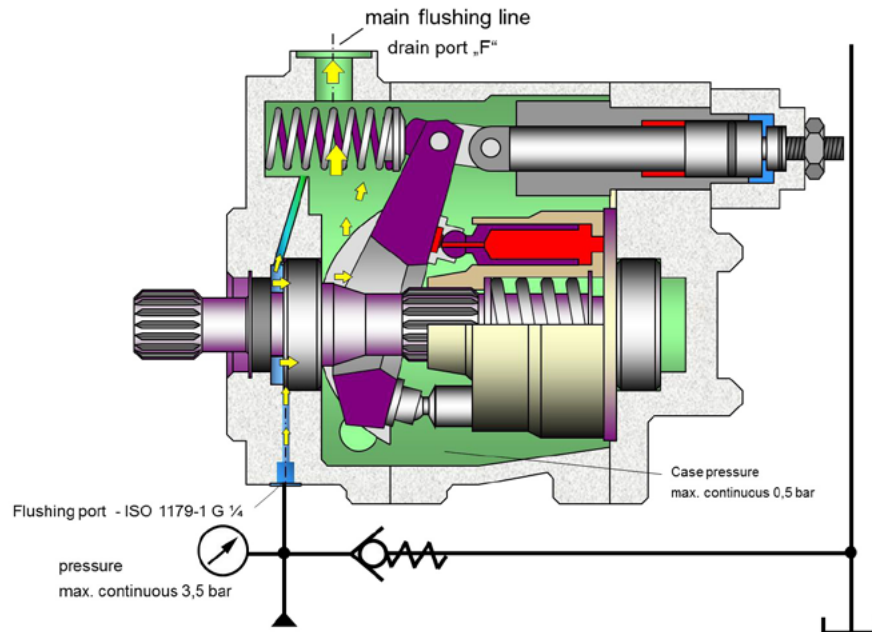

Figure 7
- If bearing flushing is required, please refer to the figure 7 for pipeline configuration: